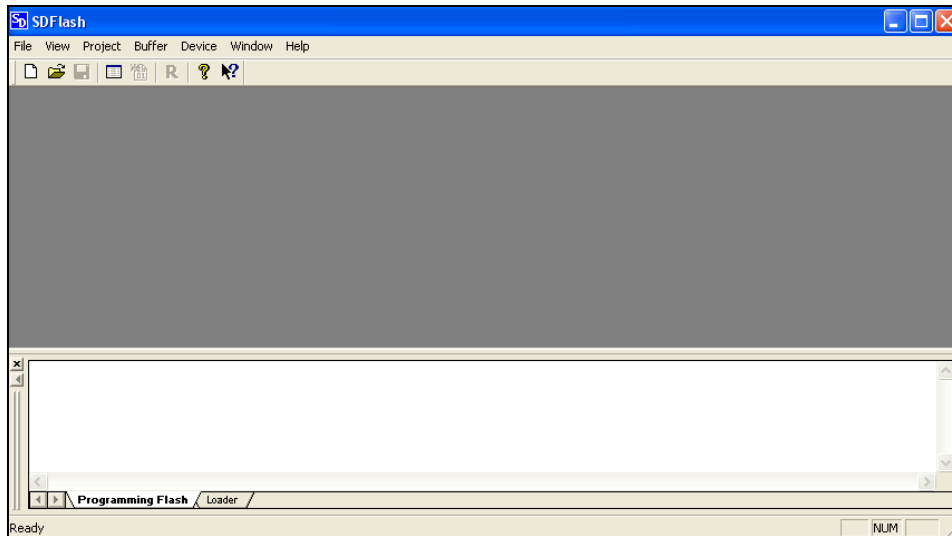

Figure 8: SDFlash Utility
3. Start up SDFlash.exe. See *Figure 8*.